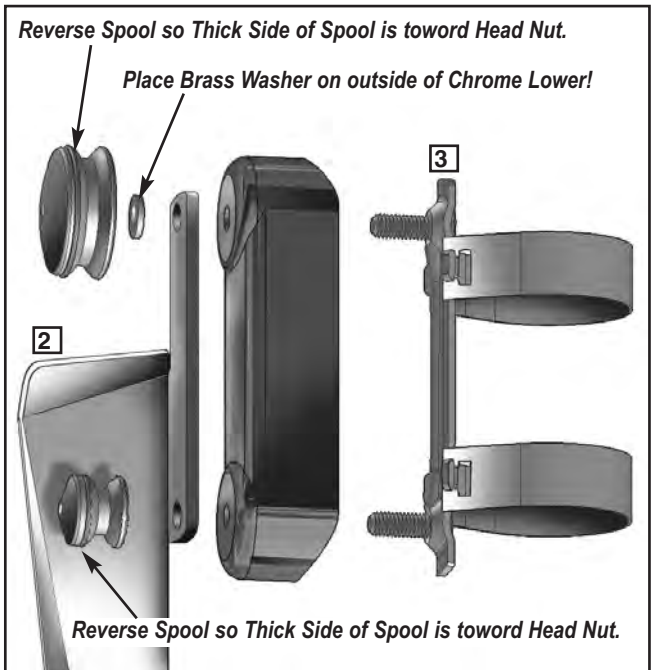

Figure 3 Kit Q142
3. Replace Spiders from original Kit Q142 with the new 25mm stud Spiders (index #3) included with this Chrome Lower Kit. **Figure 3.**
4. Select the appropriate Chrome Lower for the left or right side of the motorcycle. Place Chrome Lower on stud of Spider. Place Brass Washer to the outside of Chrome Lower on Upper Stud. Start the Upper and Lower Spool assemblies. (5/32" Hex Key) **Figure 3.**